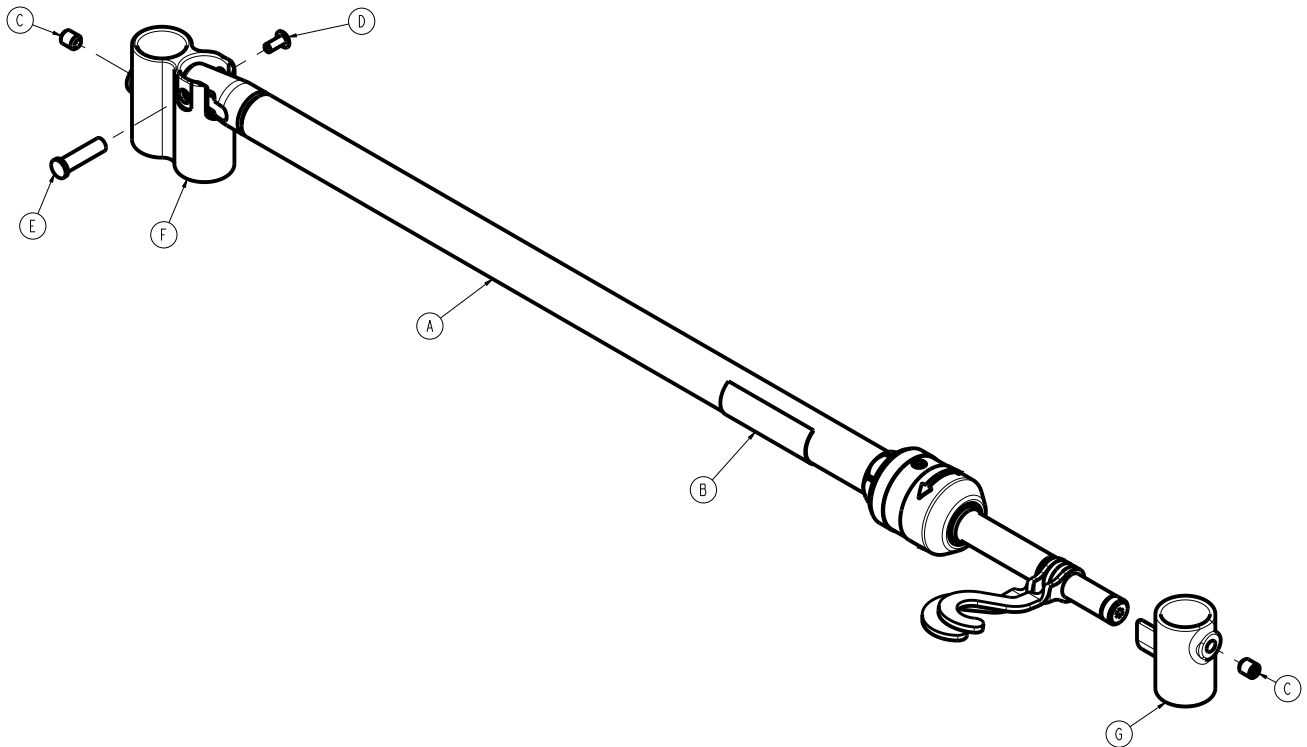

Figure 74 – Attaching the single IV pole
7. Using a 5/32" hex wrench, tighten the set screw (C) to secure the IV receptacle (F) to the bed IV post (Figure 74).